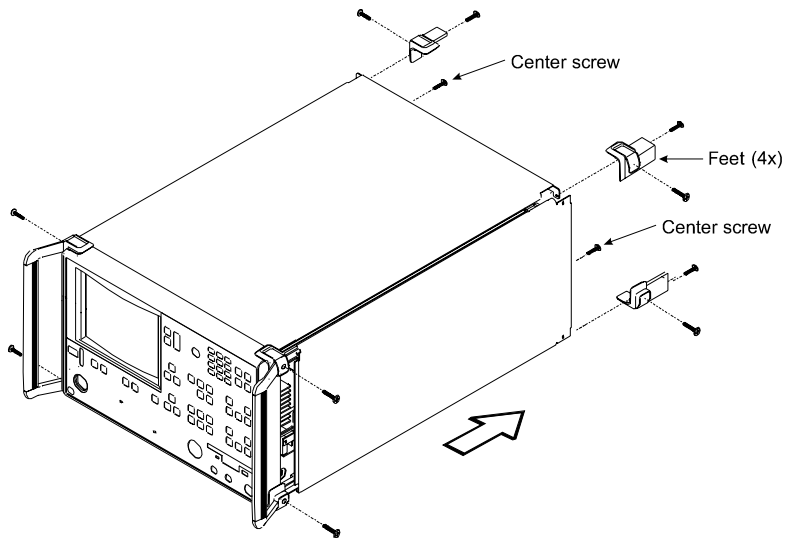

Figure 2-1
- Step 3. Using a Phillips screwdriver, remove the two handles or four bumper assemblies (and tilt bail, if installed) from the front of the unit, and the four feet at the rear (Figure 2-1). Save the screws for later use.